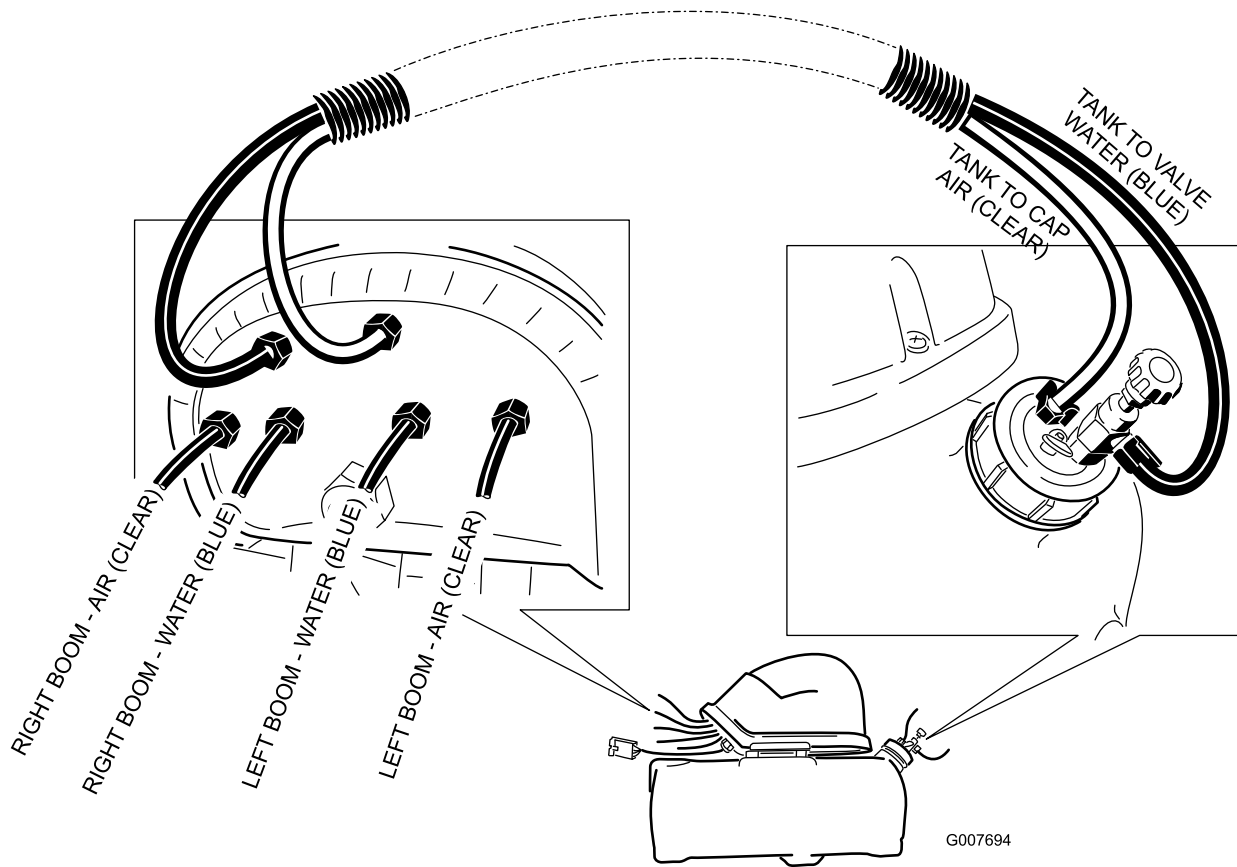

Figure 16
7. Ensure that the final routing is as shown in Figure 16.